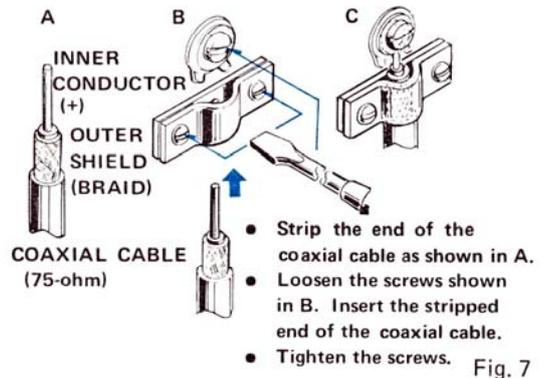

Fig. 7
2. In location adjacent to heavily traveled streets, around factories, or near high-voltage power transmission lines, use of an FM antenna may not give the desired noise attenuation. In such cases, consult your sales dealer concerning a coaxial cable feeder (75-Ω) for the FM antenna. When coaxial cable is used, make connection to the receiver as shown in Fig. 7.